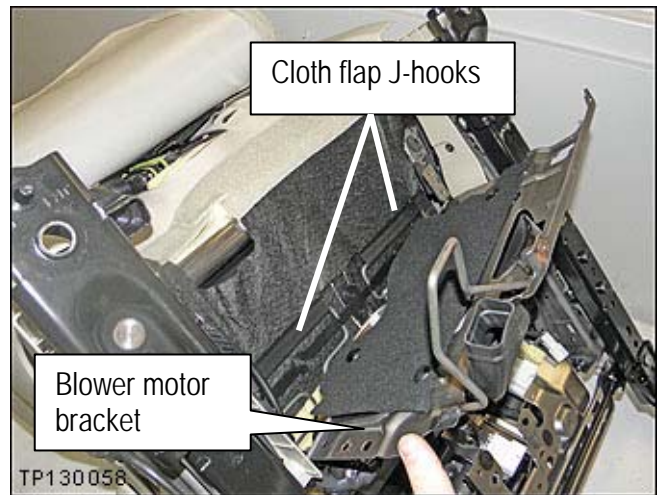

Figure 10
22. Disconnect the cloth flap J-hooks for the seat cushion trim from the seat frame (see Figure 10).